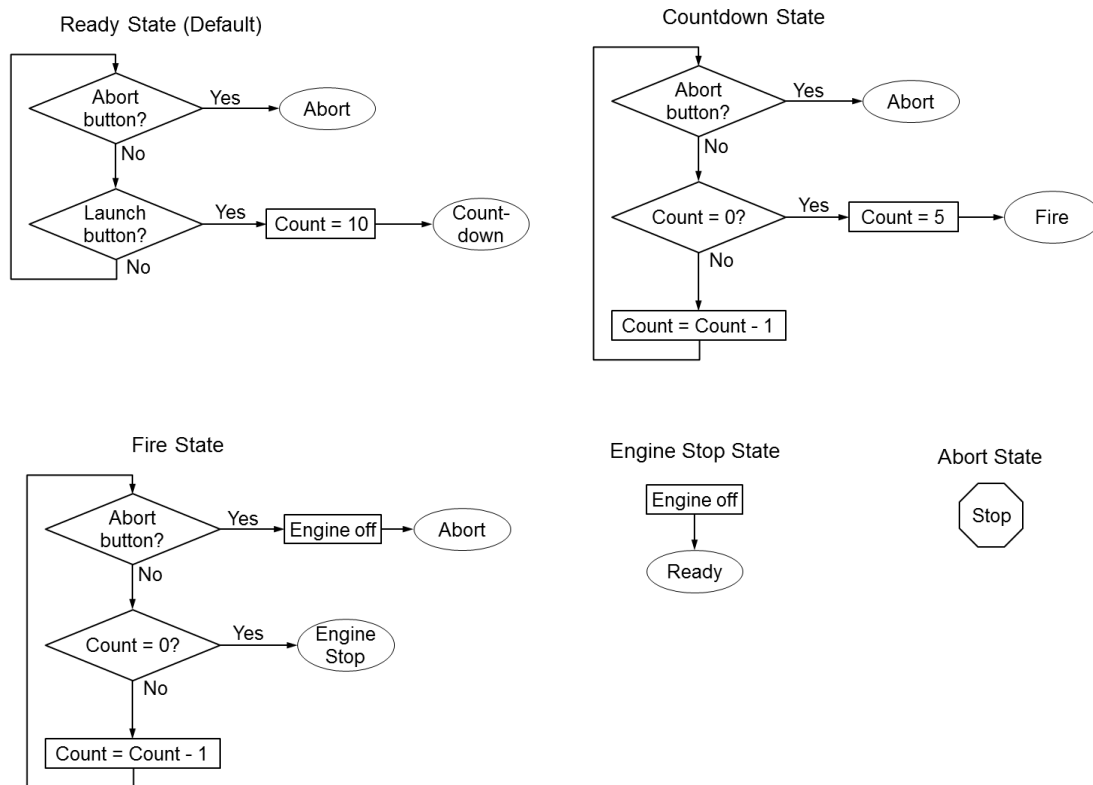

FIGURE 2.2 Flow diagrams for each of the five states in our rocket launching state machine.
Having drawn our state diagram, we can proceed to making flow diagrams. You need one for every state, so Fig. 2.2 has five separate ones. If the actions within a state are really complex, you might not be able to fit everything on one page (PowerPoint slide), but if that is really the case, maybe you should divide the action of that state into two or more states. The simpler a given state is, the easier it will be to debug.
As an example of how to read these diagrams, consider the Ready State in Fig. 2.2. When the code that makes up the state starts executing, the first thing that happens is a check to see if the Abort button has been pressed. If it has, then we immediately transition to the Abort state. If not, then we check to see if the Launch button has been pressed. If has not, then we return to the Ready state (the code will actually exit the Ready state, and then re-enter it, as you will see in a bit.) If the Launch button has been pressed, then we load the Count varia-
8. Refer back to Fig. 2.2. We need to convert the flow diagram for the Ready state into actual code. The first thing that happens is a True/False decision based on the Abort button. So draw a case structure *inside the Ready case*, and wire the Abort terminal to its selector. If you look at the flow diagram, you will see that everything that happens in this state is “under” this case, so it should pretty much fill the Ready case.